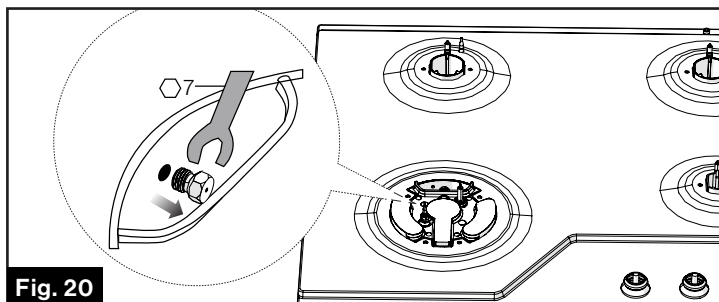

Fig. 20
3. Use a 7mm nut driver to remove the below burner nozzle. (Fig. 20)